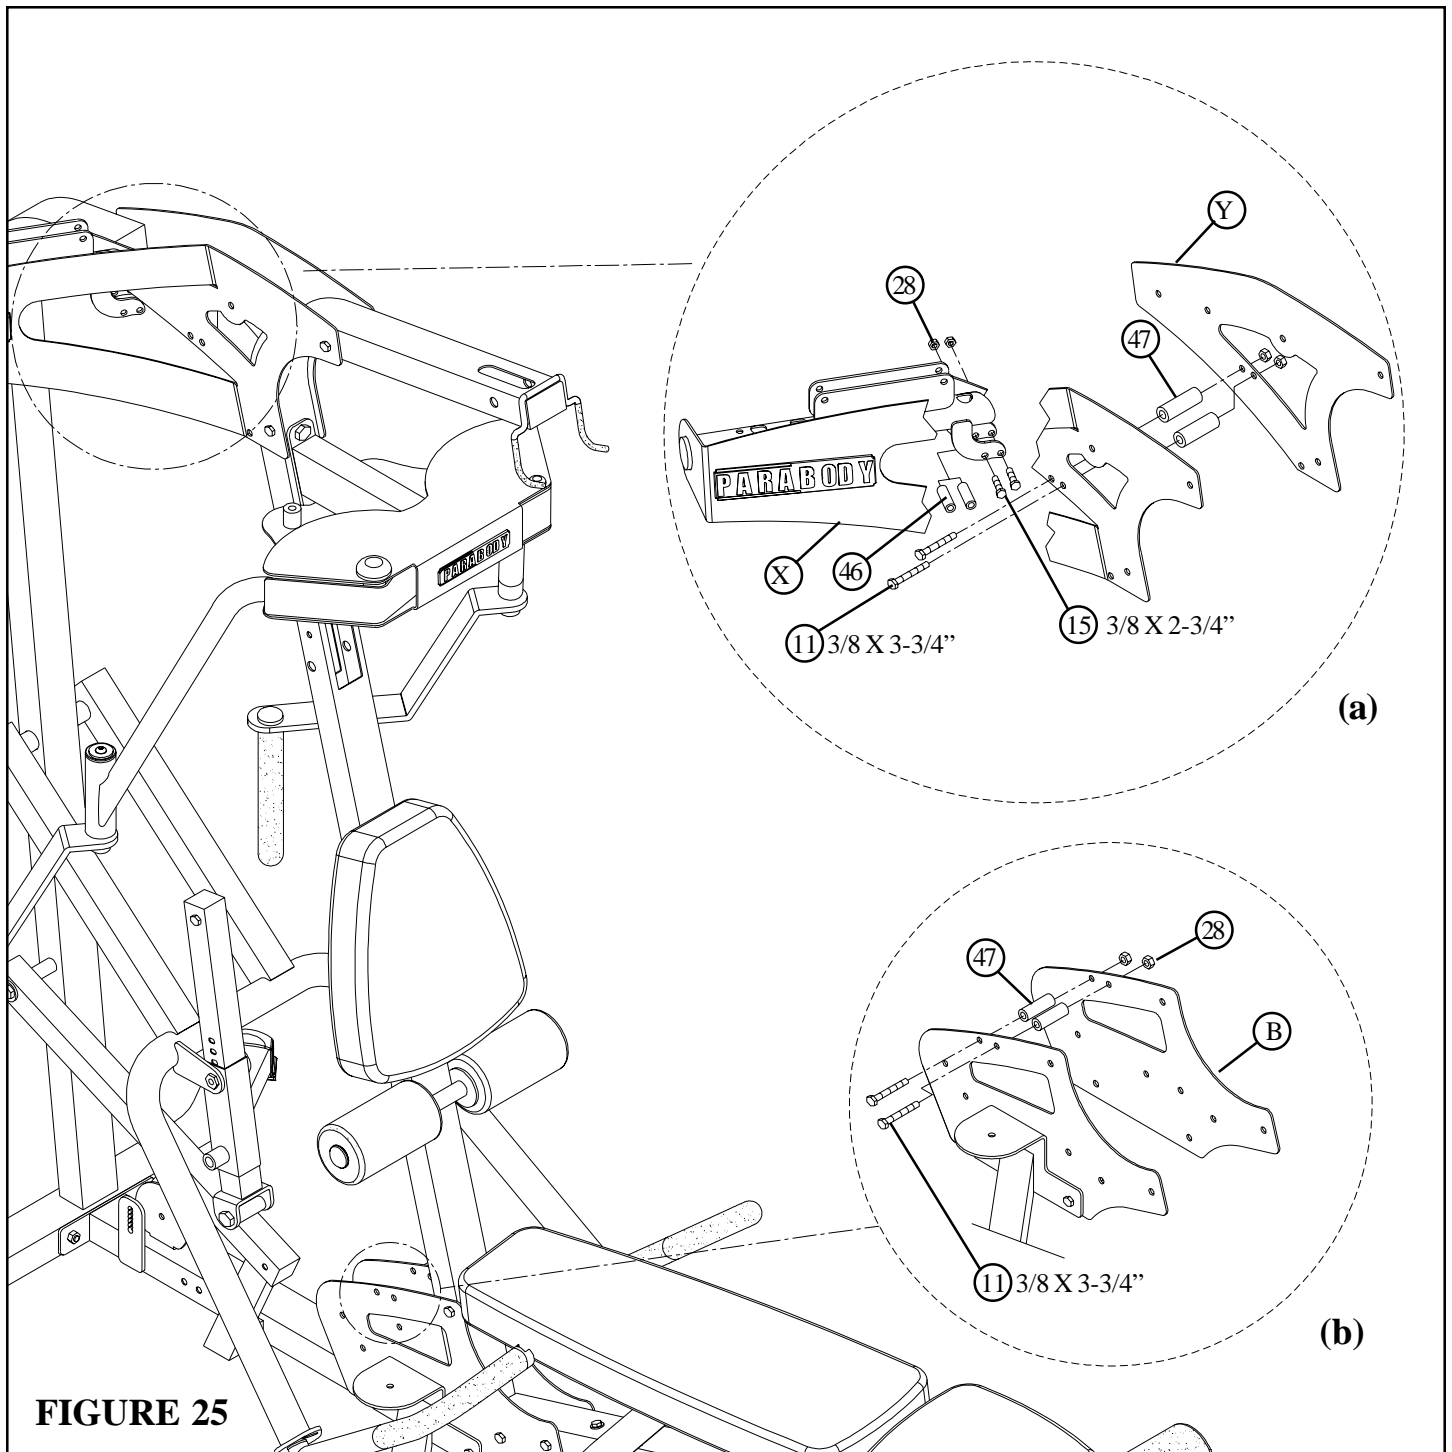

FIGURE 25
- **SECURELY** assemble two 2" PLASTIC SLEEVES (46) to the RIGHT TOP ASSEMBLY (X) using two 3/8 X 2-3/4" BOLTS (15) and two 3/8" LOCK NUTS (28) as shown in FIGURE 25(a)